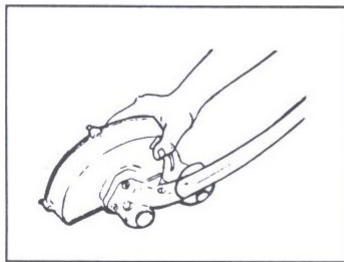

Fig. 2
2. Pull the flex shaft out of the boom about 51mm (2 in.). Insert the shaft into the square hole in the housing (Fig. 2).